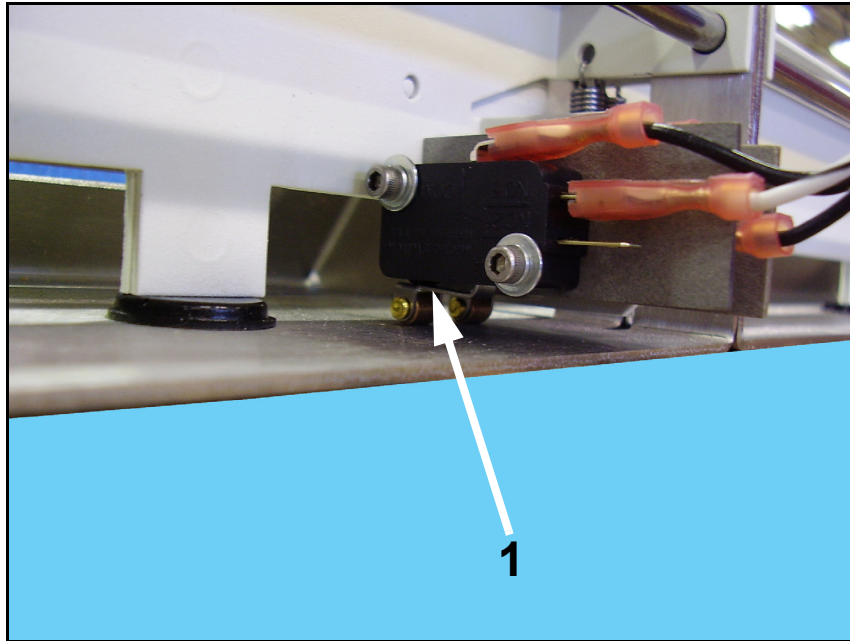

Figure 6-11. Treadle Switch Adjustment
- 5 Reverse the steps to install switch. Adjust the switch so that its arm (1 in Figure 6-11) engages the switch, but still has a little play left in it so that it's not forced against the switch.